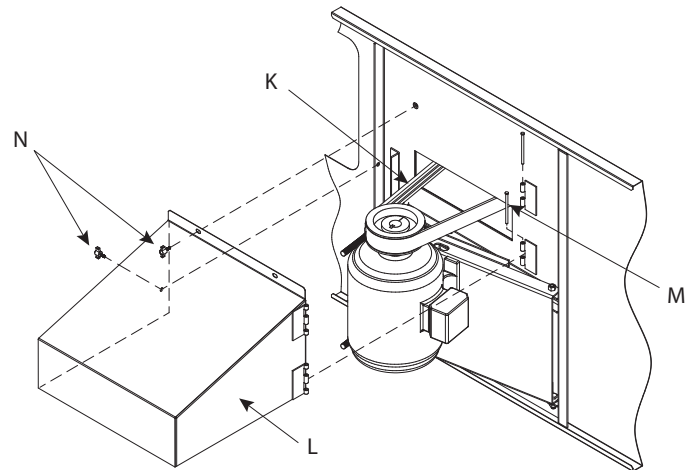

Figure 17b - Motor Guard and Power-Band Belt Installation
7. Install Power-Band belt **K** (Figure 17b) around fan sheave and motor sheave. Tighten belt by adjusting nuts on "J" bolts. Do not overtighten the belts. The center of the belt should deflect approximately 1/2" (12.7mm) in the horizontal plane with moderate hand pressure.
10. To install motor guard **L**, match up hinges and install hinge pins **M** as shown in Figure 17b.